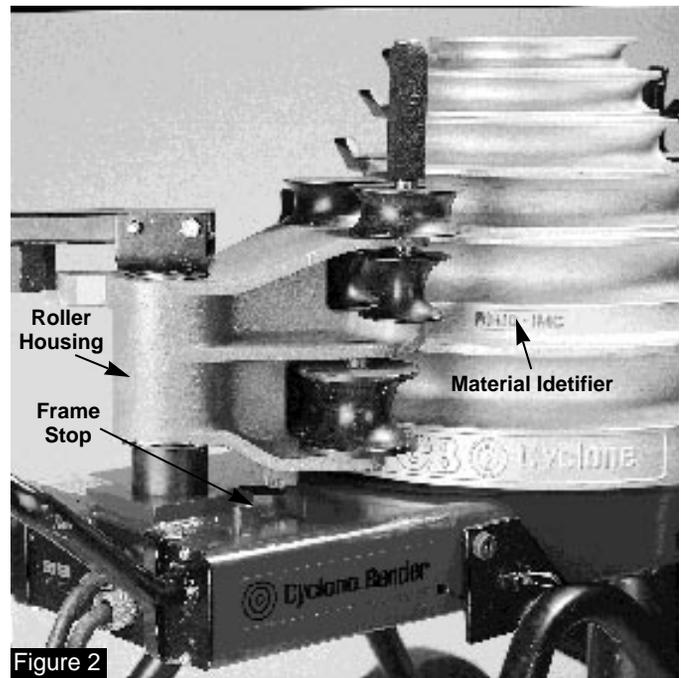

Figure 2
To avoid possible injury, do not place fingers under the bottom edge of the bending shoe. See Figure 2.
3. Locate the markings that indicate which grooves are used for specific materials, and which grooves are used for specific size conduit. See Figure 2.
4. Push the roller housing against the frame stop. See Figure 2. Rotate the shoe to bring the required grooves (EMT, IMC or Rigid) facing toward the operator. To activate the shoe, hold the pendant toggle switch in "Return" and press the override button until the zero light goes out. The shoe will rotate and stop in the load position. The zero light will come on.